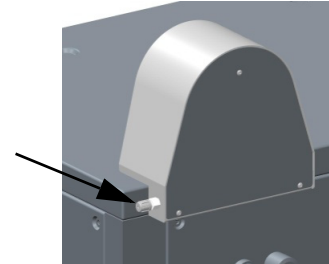

Fig. 13) Vacuum gauge service port
- ▶ If no obstruction is found and a loss of vacuum is still observed, open the vacuum gauge service port located on the back of the machine (see Figure 13).